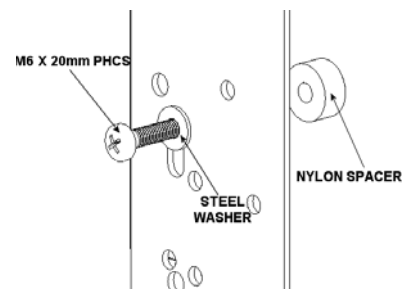
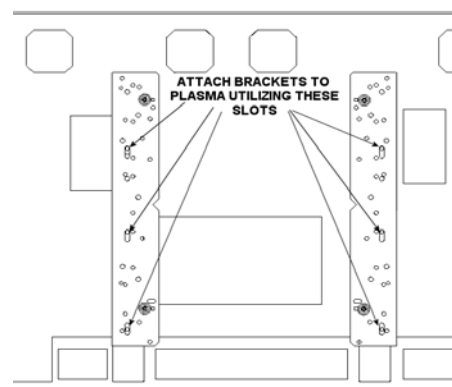

Figure 12. Spacer Installation for Group 3
Figure 13. Bracket Attachment for Group 3
4. Place the interface brackets over the Nylon spacers (see Figure 12 and Figure 13).
6. Using the hardware in parts bags H and J, place one steel flat washer over the interface bracket (see Figure 12 and Figure 13) and secure the interface brackets to your Large Flat Panel display using the M6x20mm screws. Do not overtighten the mounting screws.